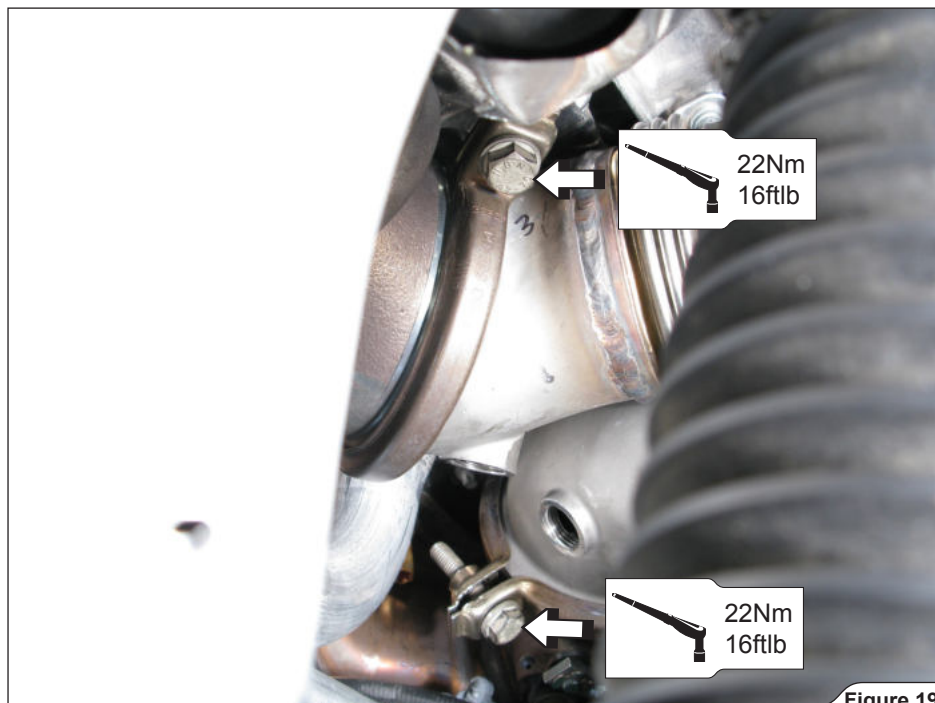

Figure 19
3. **For optional Down Pipes:** tighten the original spherical clamps to the specified torque (Figure 19).